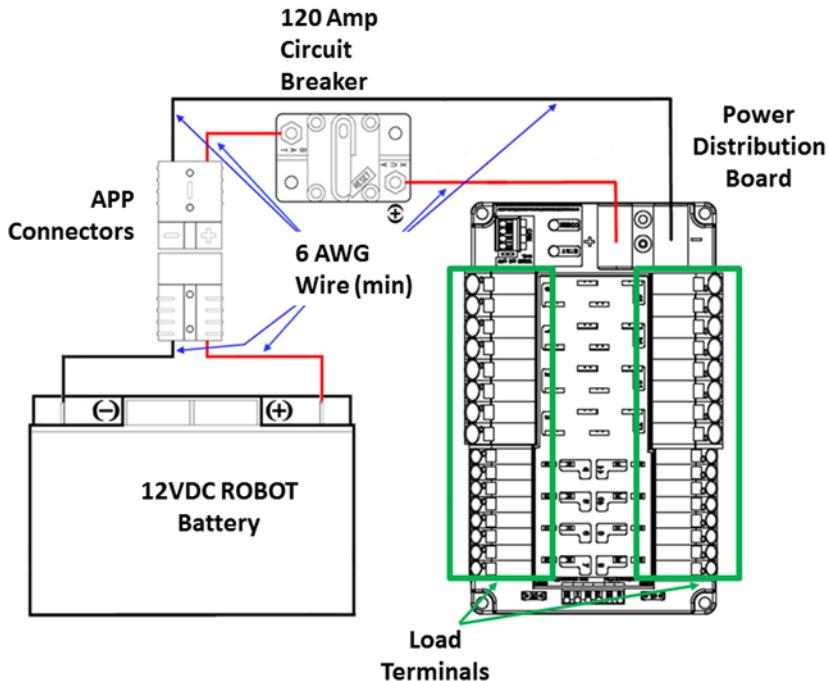

Figure 9-9 Electrical connection diagram
R40. The one (1) ROBOT battery, a single pair of Anderson Power Products (or APP) 2-pole SB type connectors, the one (1) main 120-amp (120A) surface mount circuit breaker (Cooper Bussman P/N: CB185-120, CB185F-120, CB285-120), and the one (1) CTR Electronics Power Distribution Panel (PDP, P/N: am-2856, 217-4244, 14-806880) shall be connected with 6 AWG (7 SWG or 16 mm²) copper wire or larger, with no additional devices or modifications, as shown in Figure 9-9.
R41. All circuits, with the exceptions of those listed in R46 and R48, must connect to, and have power sourced solely by, a single protected 12VDC WAGO connector pair (i.e. the Load Terminals, as shown in Figure 9-9) of the one (1) CTR Electronics Power Distribution Panel, not the M6 cap screws.